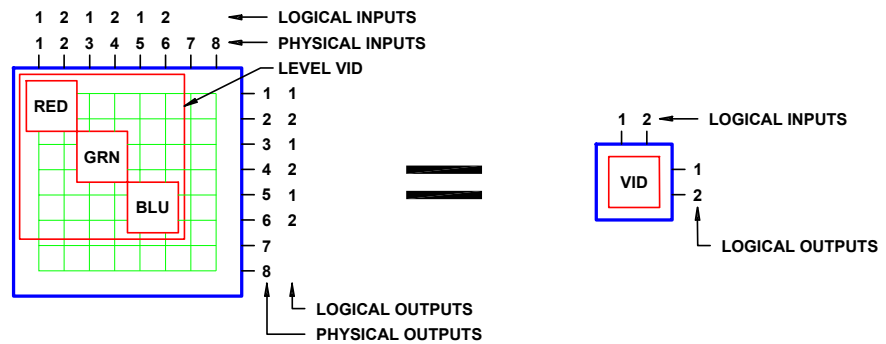

Figure 20 The Components of a 2x2 RGB Level
A component is the most basic signal element which can be switched by a single crosspoint. For example, in RGB video, “Red”, “Green”, and “Blue” are components; in stereo audio, “Left” and “Right” are components. The example shown in Figure 20 is a 2x2 RGB video level named VID which is made up of three components named RED, GRN and BLU.
2. Enter the component name in the **Component Name** box. Component names are one to eight characters in length and are constructed using uppercase letters, numbers, and spaces. The first character must be a letter. For the example shown in Figure 20, “RED” would be used for the first component, “GRN” for the second, and “BLU” for the third.
4. Select the level this component will be associated with from the **Level** drop box. For the example shown in Figure 20, “VID” would be used for all three components.
5. Enter the amount of **Input Offset** and **Output Offset**. Acceptable values for input and output offsets are shown in Table 1 on page 1. For the example shown in Figure 20, “0” and “0” would be used for the component “RED”; “2” and “2” would be used for the component “GRN”; and “4” and “4” would be used for the component “BLU”. For more information about these fields, see “Input Offset” on page 91 and “Output Offset” on page 96.